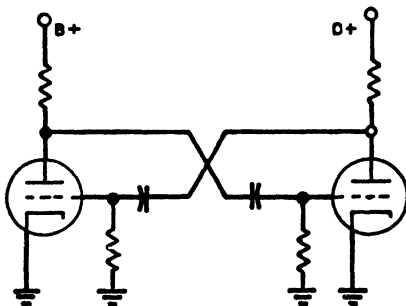

FIG. 4-19.—Multivibrator oscillator.
**Ans.** Figure 4-19 illustrates a simple schematic of a multivibrator circuit.